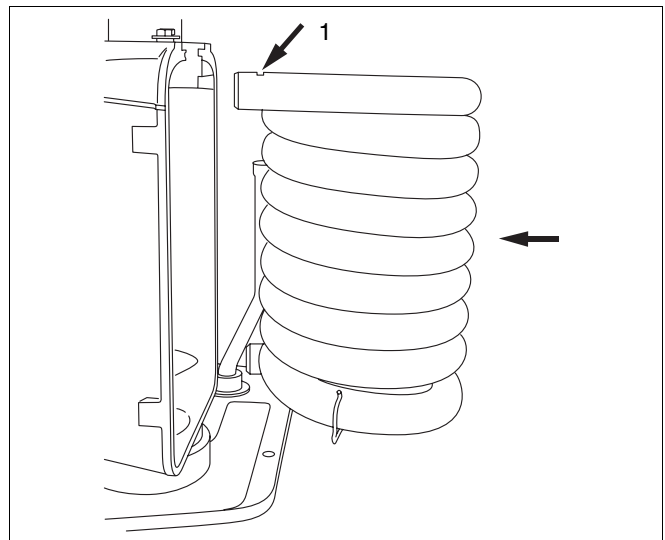

Fig. 36 Refitting the heat exchanger
Refitting (fig. 36) :
- Check to ensure that the heat exchanger has been fitted the right way round. The upper securing-pin groove must be horizontal (fig. 36, item 1).